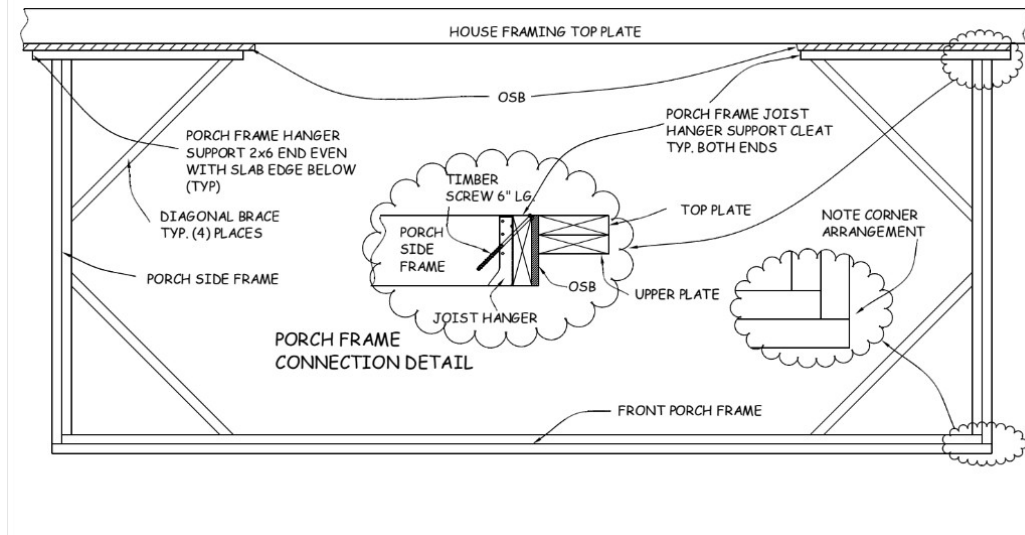

Figure 6-4. Porch Framing.
10. Determine the slab pitch by laying one end of the level on the slab at the house perpendicular to the wall. Raise the lower end until the bubble is centered and measure the gap at the slab edge. Measure from the joist hanger to the slab, and add the pitch amount. Measure and mark this length on a 2x4. Clamp or screw the 2x4 to the outside of the side frame assembly, with the mark aligned the bottom of the side frame, about 6" from the outside end of the frame piece. Take each 2x6 pair and place the flush end into the joist hanger, while supporting the outside end with the 2x4. Make sure the shorter 2x6 faces the center of the porch. Holding the flush end tight to the house, drive a 6" timber screw through the 2x6 joist hanger support into the ends of each of the side porch frame 2x6s (see detail in Figure 6-4). Then, toenail the side frame through the joist hanger support with 16d nails, filling all holes.
13. Cut four 2x6 pieces about 40" long to be used as diagonal braces, after checking the length required. Cut a 45° bevel on each end. These will be installed diagonally in all four inside corners of the porch framing to hold them square (see Figure 6-4).